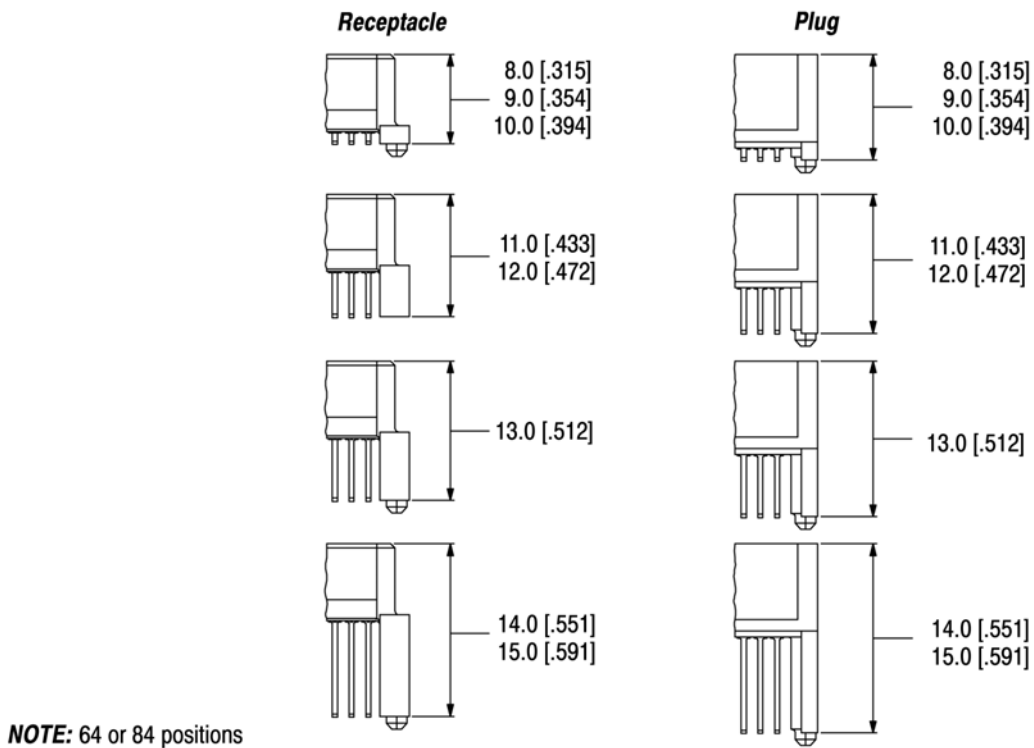

Figure 3
Board stacking heights for the 1.0 mm FH Connectors are provided in Figure 3.
*The distance between pc boards will be determined by the dimension needed for fully mated connectors as provided in Figure 3. However, we emphasize that the connectors MUST NOT be used as the only standoff between pc boards.*